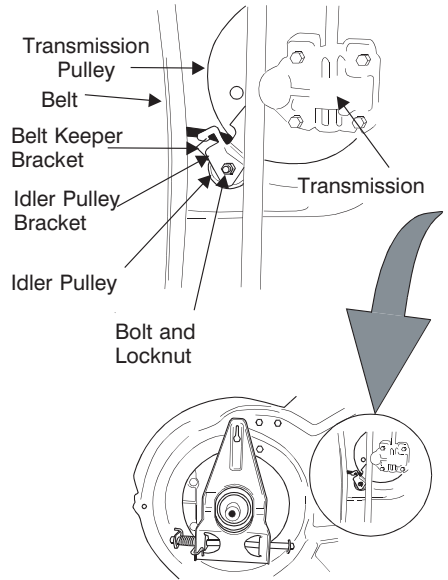

Figure 22
- Slide the belt out from between the belt keeper bracket and the idler pulley. See Figure 22.
18. Tighten the idler pulley bolt and locknut $\frac{1}{2}$ turn using two $\frac{7}{16}$ " wrenches. See Figure 22.